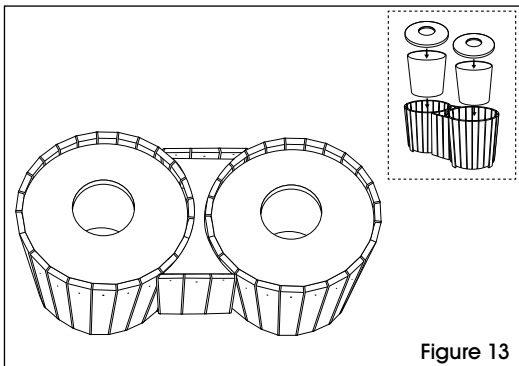

Figure 13
18. Place the rigid liners inside the cans and place the plastic recycling and trash lids on top. (See Figure 13)